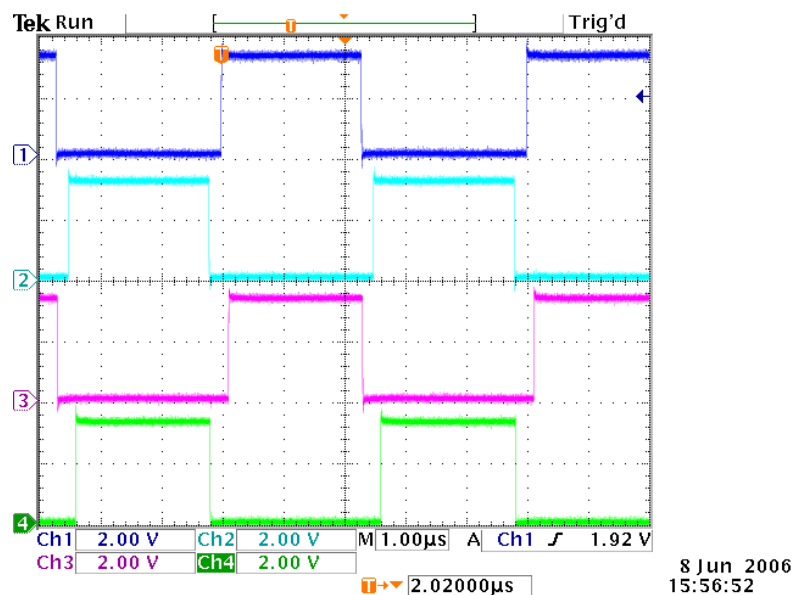

Figure 10. PWM waveform from Build 5 with a 20 cycle dead band on EPWM1A/1B and a 20 cycle dead band on EPWM2A/2B respectively.
7. Inspect the PWM output on EPWM1A, EPWM2A and EPWM3A on the EZDSP (pins 9,11, 13 of connector P8). Figure 10 shows the waveforms generated with the dead band set to 25 cycles. **Error! Reference source not found.** shows the waveforms generated with dead band of 20 cycles on EPWM1A/1B and EPWM2A/2B, with 30 cycles.